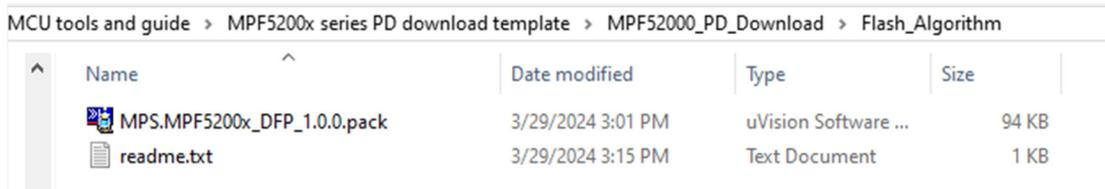

Figure 12: Installing the Software Pack
- c. Ensure that the MPF5200x series pack has been installed. Find the “MPS.MPF5200x_DFP_1.0.0.pack” in the “...\MPF52000_PD_Download\Flash_Algorithm” folder (see Figure 12). Double-click the software pack for installation .